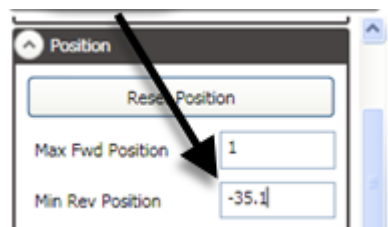

Figure 71
3. Type the **Position** value into **Min Reverse Position** field (Figure 71).